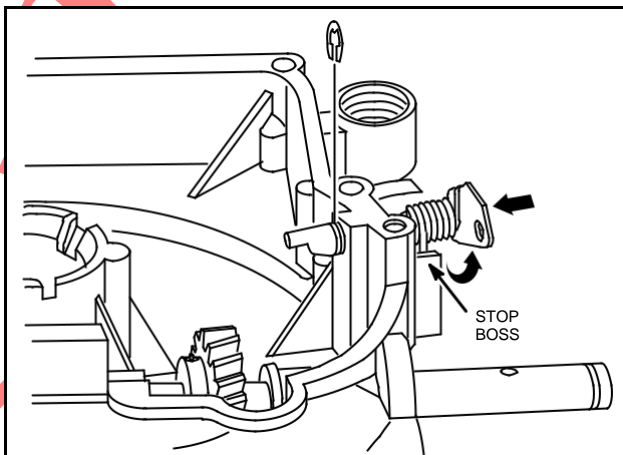

Fig. 165 - LEVER INSTALLATION
4. Slide control lever assembly into shaft bore, Fig. 165, as far as it will go.